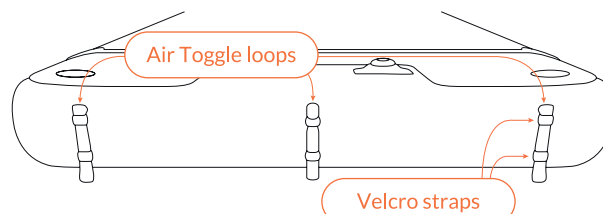

Fig 64 – Undo the Velcro straps to release the Air Toggle loops
8. Ensure that the vertical Air Toggle loops are unfastened in the required locations on both Platforms by releasing the Velcro straps (Fig 64).